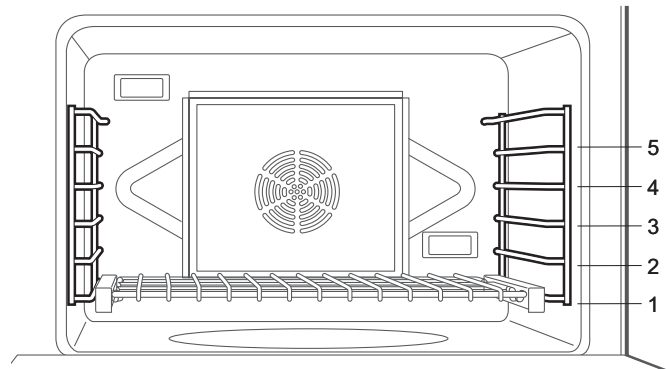

Figure 29: Main Oven with Rack Positions
- Rack level positions in the oven are numbered like an elevator. Number one level is the lowest (*Figure 29*).